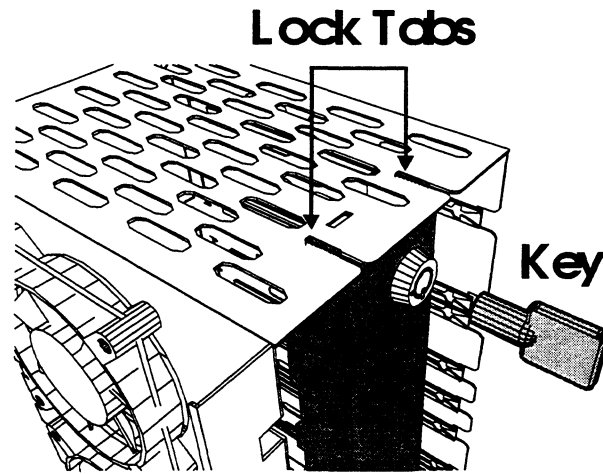

Figure 3-12 Locking the drive
13. Insert the key into the lock. Push and turn counter-clockwise to lock as shown in Figure 3-12.